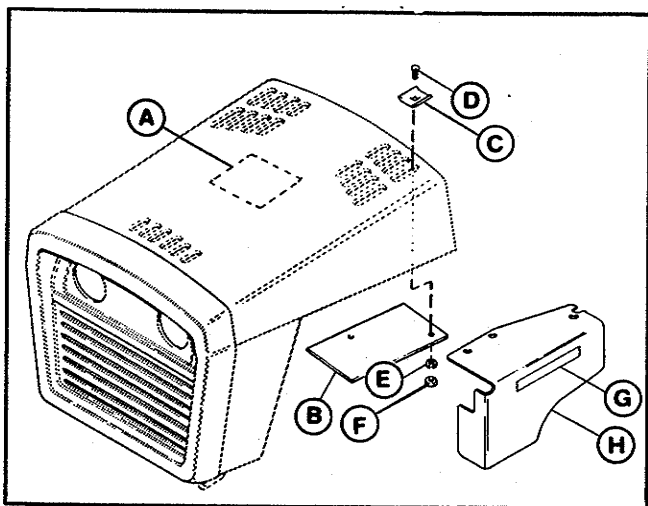
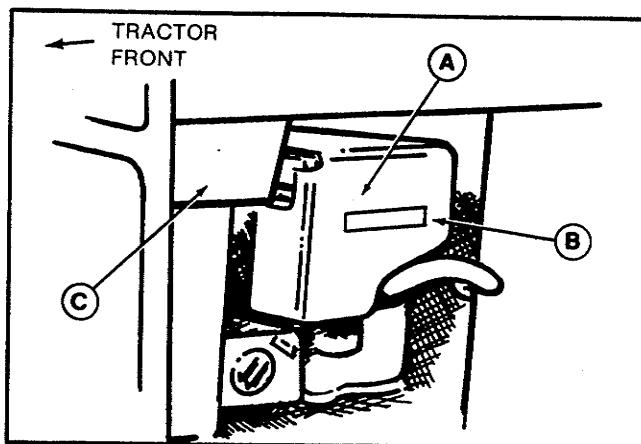

Figure 24. Winterizing Parts
Figure 25. Deflector Mounted On Air Cleaner
The parts shown in figure 24 must be installed on the tractor for winter operation. Notice that some parts may not be used, depending on the tractor. Proceed as follows.
- If the hood has louvers as shown in figure 24, install the two covers (B) from bottom of hood to cover louvers with the four bolts (D), clips (C), lockwashers (E) and nuts (F). Apply the instructional decal (A) to underside of hood to serve as a reminder.
- For 8 hp, 11 hp and 12 hp tractors, install the deflector (H) as follows:
- Align two holes in the deflector with the two holes in the air cleaner cover and reinstall the two screws. Figure 25 shows the deflector installed.
- Apply the decal that says "Remove shield for summer operation" onto the deflector as shown in figure 25.